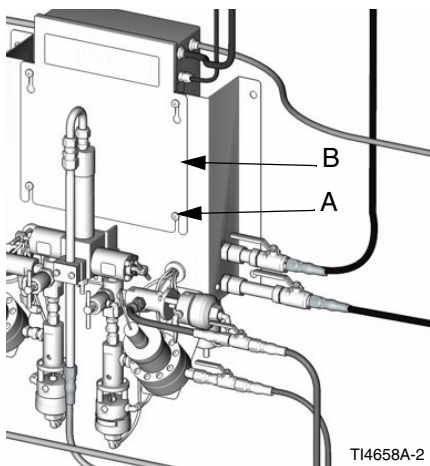

FIG. 1
4. Loosen the 4 screws (A), then remove the Smart Fluid Panel cover (B). FIG. 1.